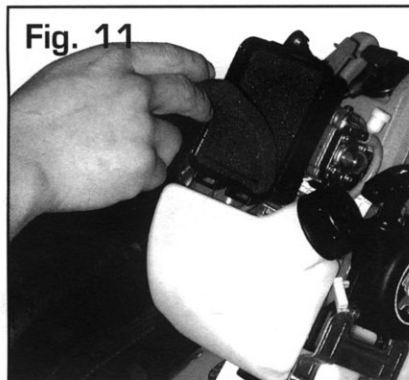

Fig. 11
2. Remove and clean the air filter (the spongy material on top of the air intake) by washing the sponge with soap. (Fig. 11).